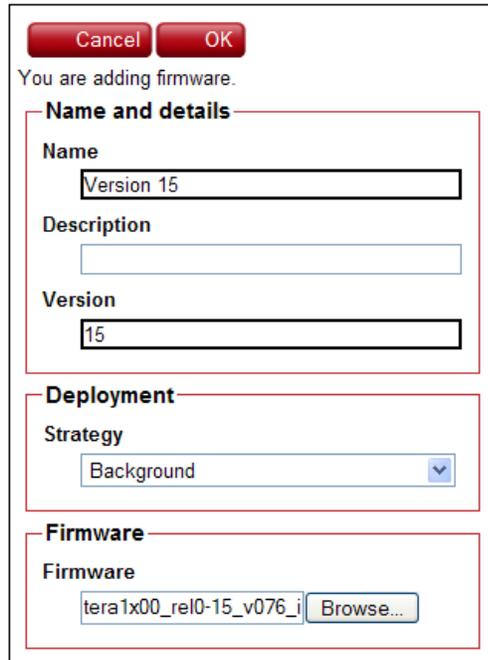

Figure 5-13 Name and details field when adding firmware
3. Fill in the appropriate Name, Description, and Version fields (see Figure 5-13). The name must be unique, otherwise the new firmware overwrites prior firmware with the same name.